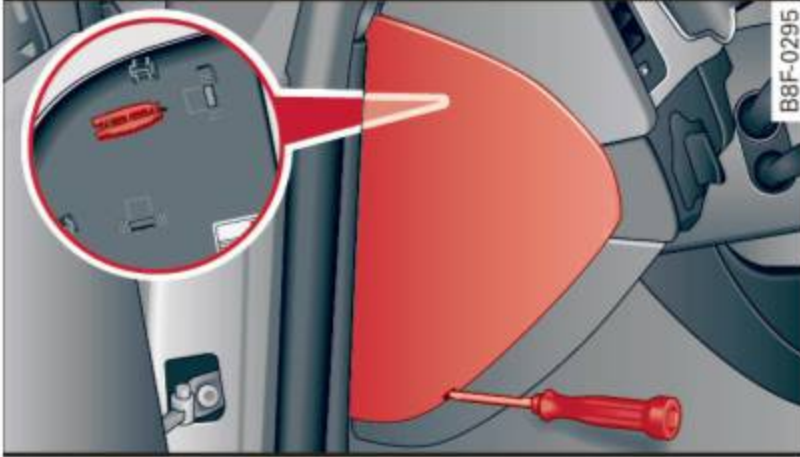

Fig. 207 Left cockpit: fuse panel cover
- ▶ Remove the appropriate cover ⇒ *fig. 207* or ⇒ *page 213, fig. 178*.
- ▶ Remove the clamp from the rear side of the fuse cover ⇒ *fig. 207*.